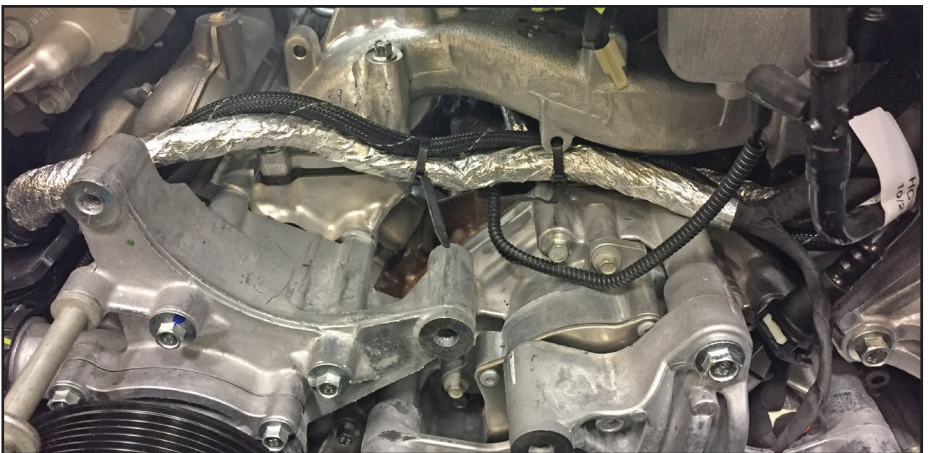

Figure 11 — Preparing for main bracket installation
- Using cable ties, secure the harness to the cable tray mounting bosses (Figure 11).